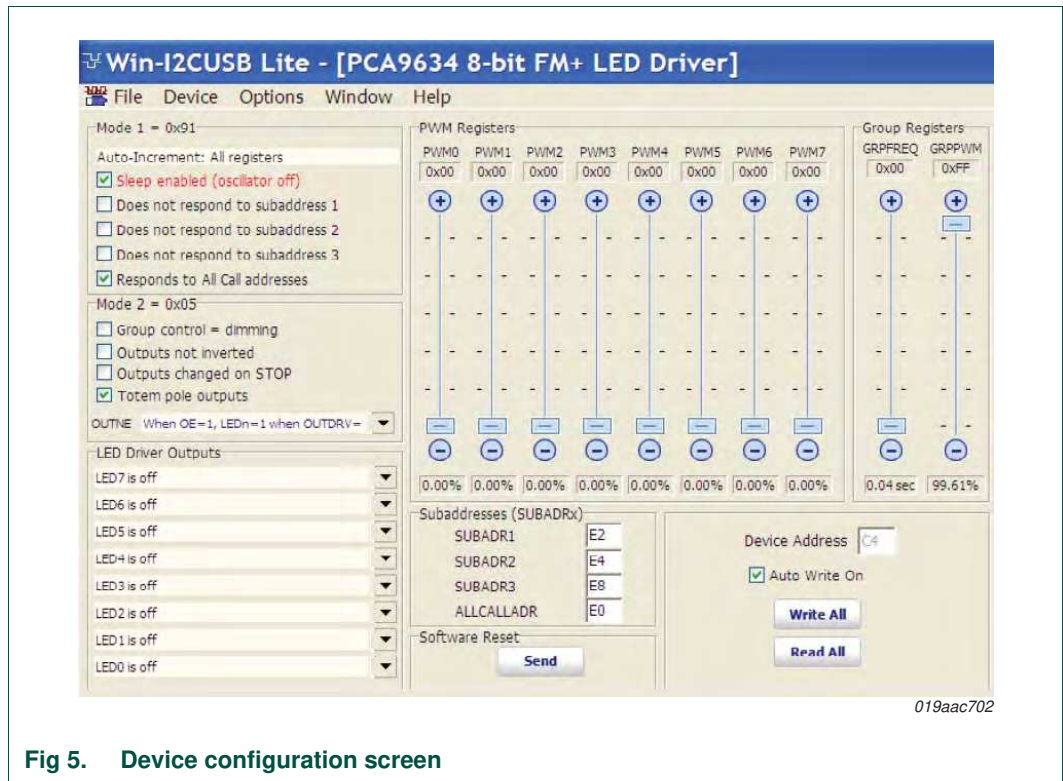

Fig 5. Device configuration screen
5. The device configuration screen will be displayed as in Figure 5.